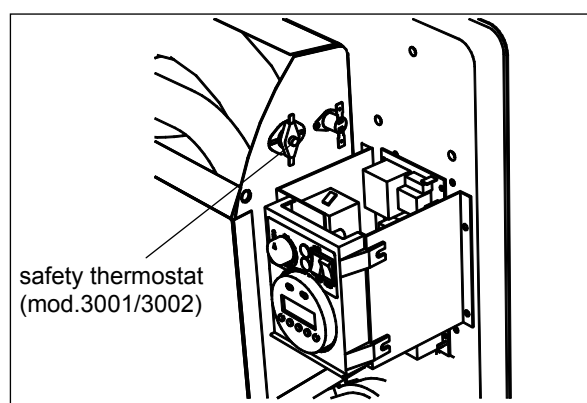
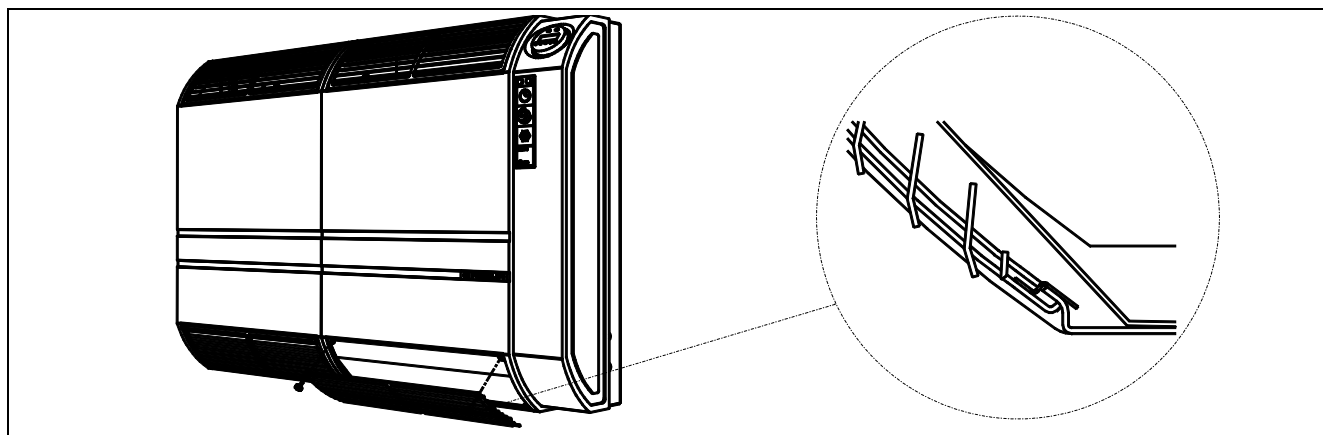

Figure 35 – LOCATION OF RESET KEY ON SAFETY THERMOSTAT (MODELS 3001, 3002)
Figure 36 – MODEL 8002 LOWER GRIDS POSITIONS.
3. **Overheating:** if during the operation of the unit the fan stops working or in case the upper heated air outlet should obstruct, the safety thermostat will immediately cut off the electricity supply to the valve, cutting off the gas flow to the burner. To restore the working operations wait 10 minutes approx. to let the temperature drop. Clear electric supply, remove the shell and reset the unit pressing the reset key positioned on the safety thermostat inside the unit (see Figure 35, Figure 36 or Figure 35). Should a similar failure occur again in a short period of time, a service qualified engineer should be contacted.
Every year, before use, the 8002 model needs an adequate cleaning of all filters positioned behind the lower grids (see Figure 36). They should be removed and cleaned with a vacuum cleaner or simply with water and soap.